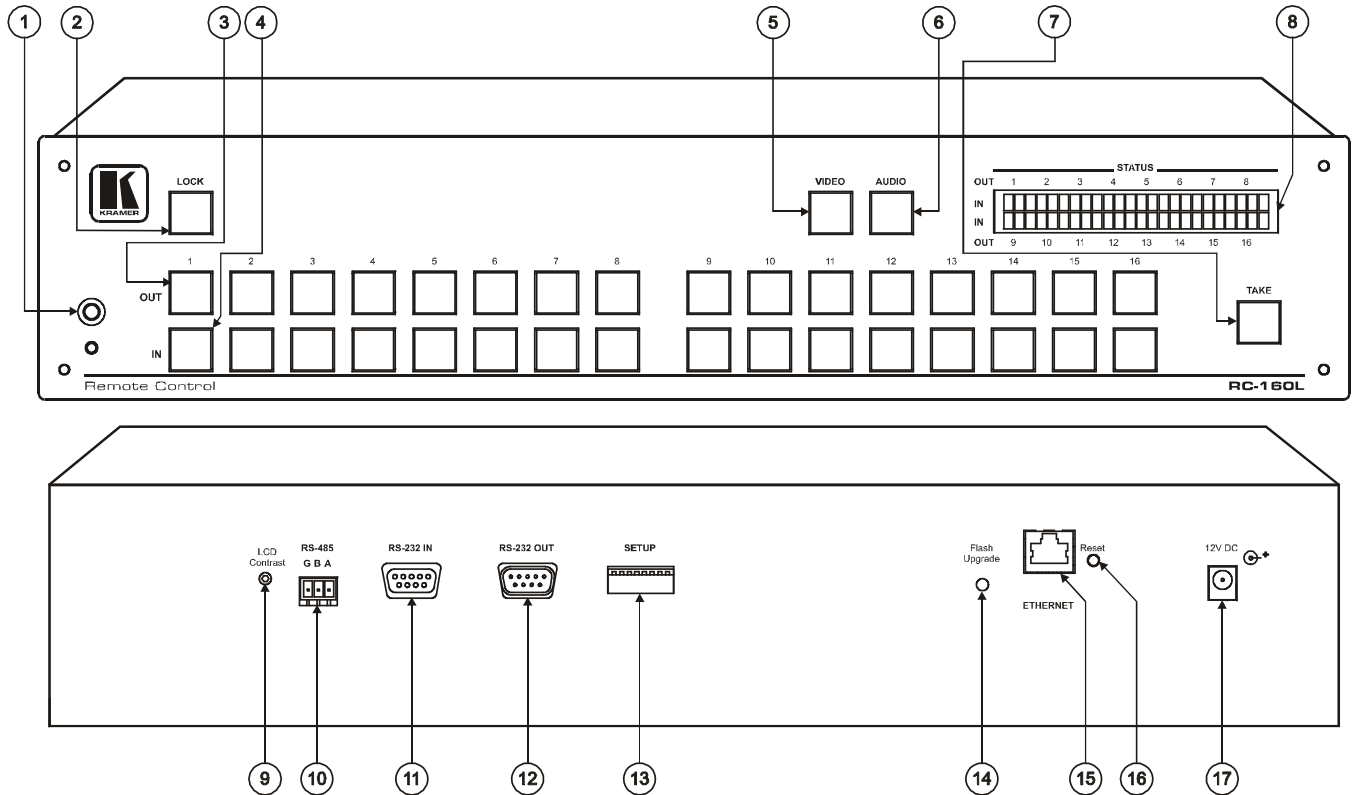

Figure 3: RC-160L Remote Control
- Figure 3 illustrates the **RC-160L** Remote Control